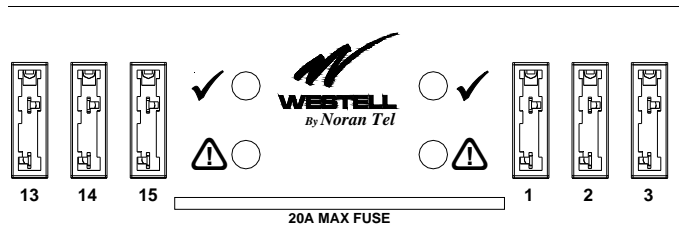

Figure 1.4.1
1.4. Alarm circuits are provided to alert service personnel of fault conditions. A fuse alarm is a blown fuse within a given bus. A red fuse alarm LED  on the faceplate will illuminate when a fuse alarm condition is present. As well, the green Normal Operation LED  will extinguish to signal a fuse alarm or input power failure and the appropriate relay contacts will change states. These fuse panels have common (C), normally open (NO) and normally closed (NC) terminals for alarms. Note, the use of the alarm contacts is optional, if you do not wish to extend the alarms, you don't have to do anything with the alarm pins. The "Normal" condition of the relay exists when the panel is powered up without any blown fuses. The local alarm LEDs are located on the front of the panel as shown in Figure 1.4.1